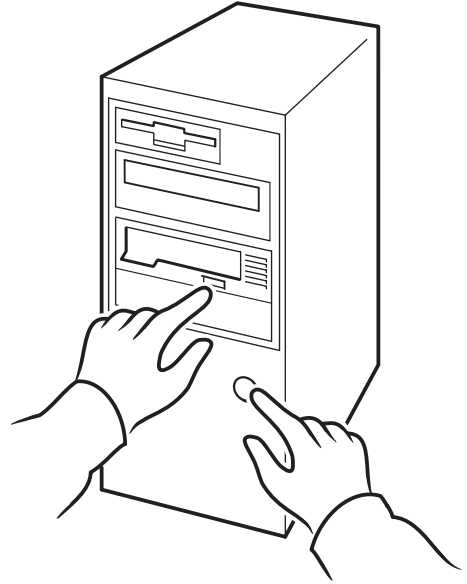

Figure 12b: using HP OBDR, step 2
- 2 Hold down the eject button. Keeping the eject button pressed down, power on your server (see Figure 12b). This activates the HP One-Button Disaster Recovery process. Release the button as soon as the Ready LED on the front panel flashes in the OBDR sequence. This is a repeated pattern of: flashing-steady on-flashing.